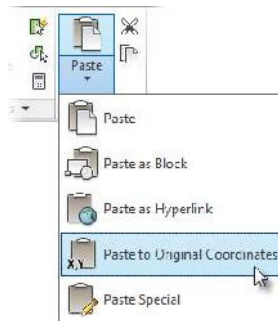

FIGURE 7.50: Selecting the Paste To Original Coordinates command from the Ribbon
7. Expand the Paste button on the Home Ribbon tab > Clipboard panel, and select Paste To Original Coordinates (see Figure 7.50).